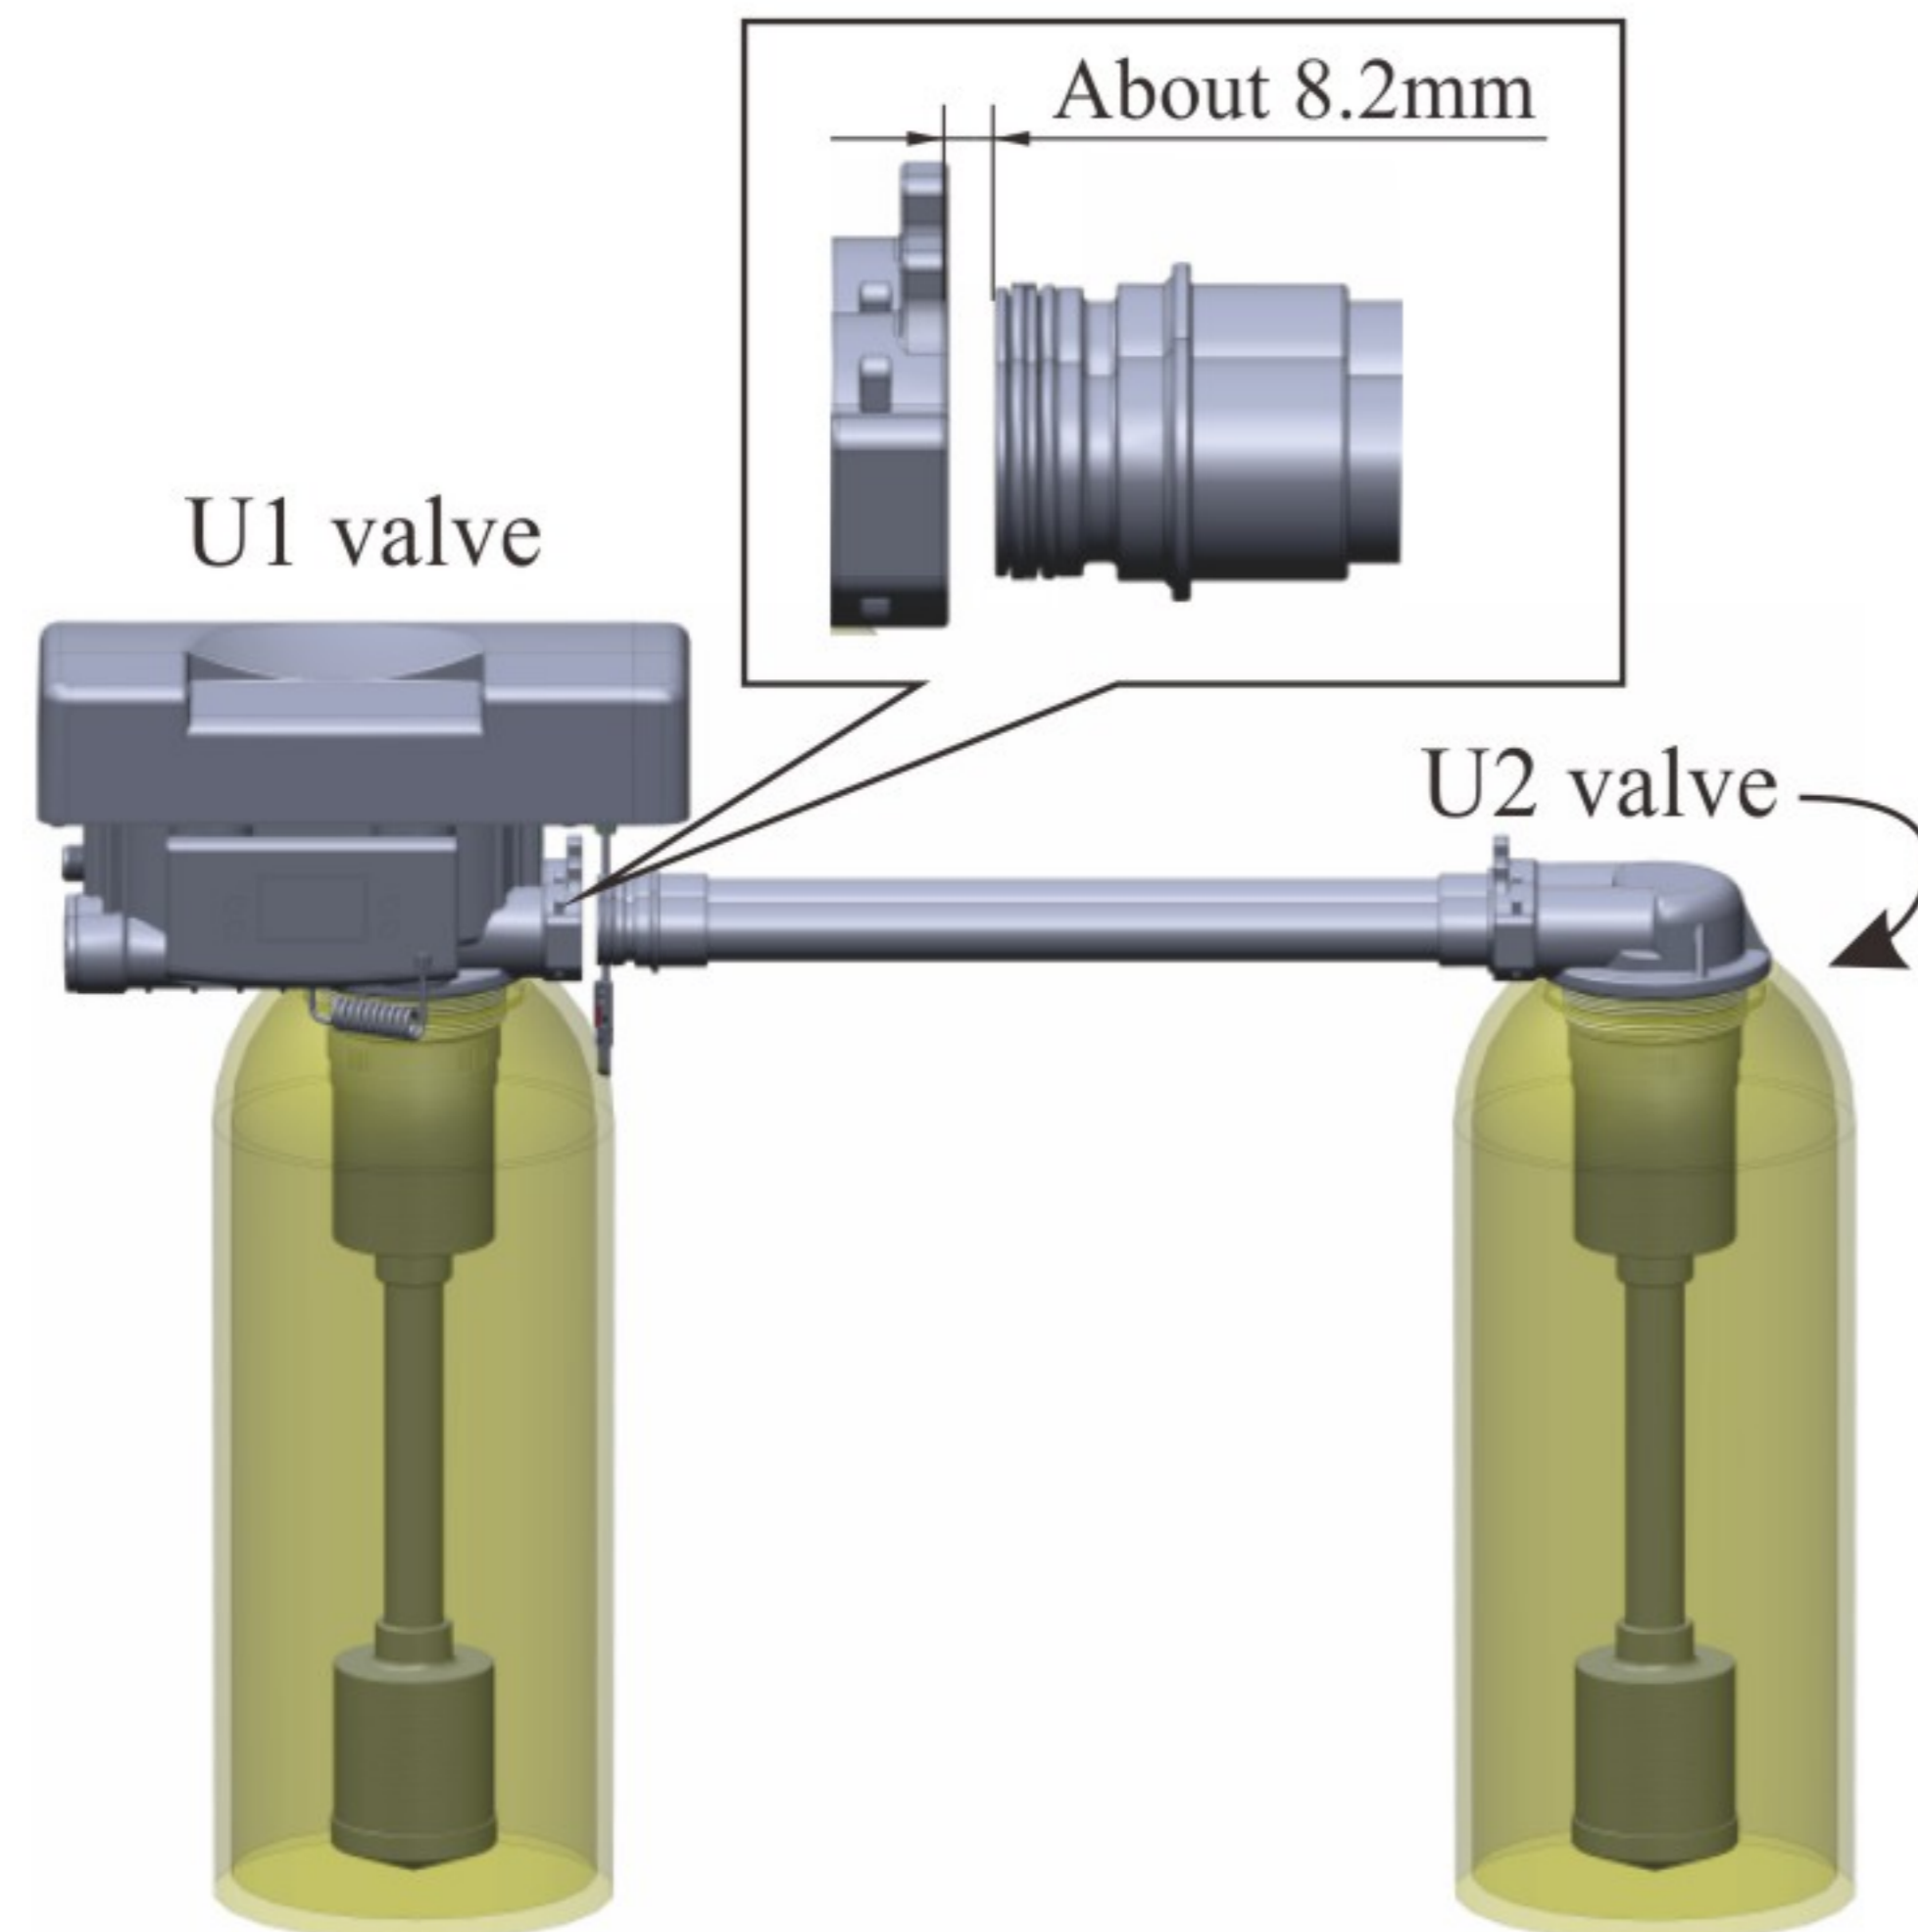

Figure2-2-3
3. As Figure 2-2-3 shows, screw tightly U2 valve so that the connecting pipe is aligned with the U1 valve connecting pipe hole, and the gap is about 8.2mm;